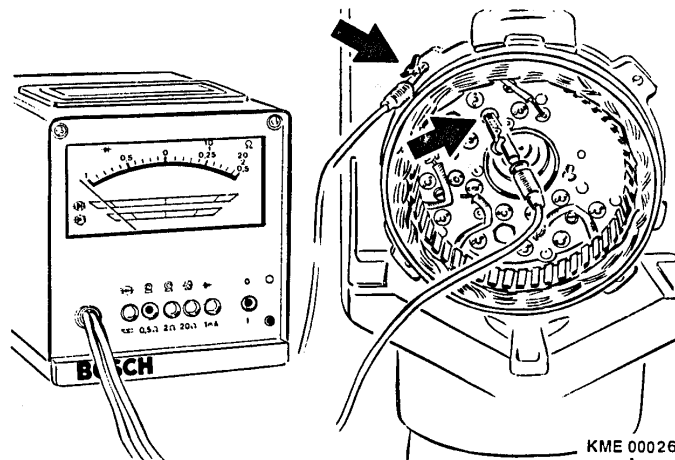

Figure 11 Testing of Rectifier Assembly
- Using tester WPG 012.00 (Bosch Number 0 684 201 200)** (Figure 11)